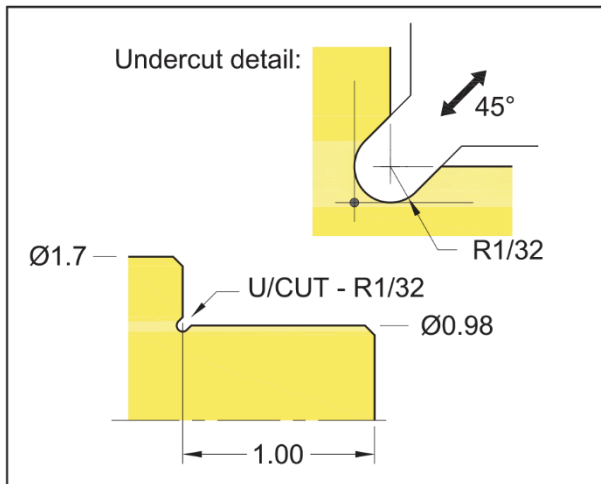

Figure 36-13
0.031 (1/32) of an inch in the example. Cutting depth is established from the drawing data. Normally, the corner groove is specified as a 'minimum undercut'. In this case, the center of undercut will be at the intersection of the shoulder and diameter. Cutting motion in and out of the groove must be at 45, meaning an identical amount of travel in both X and Z axes. *Figure 36-13* illustrates a corner groove with a 0.031 radius minimum undercut.